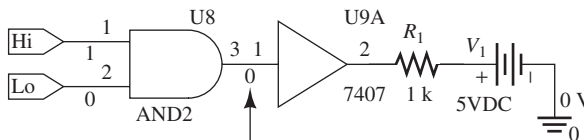

FIGURE 10.61 PSpice result for Example 10.22 Part (a).
- Set up a bias point simulation and press run (see Figure 2.71). The simulation results are shown in Figure 10.61.